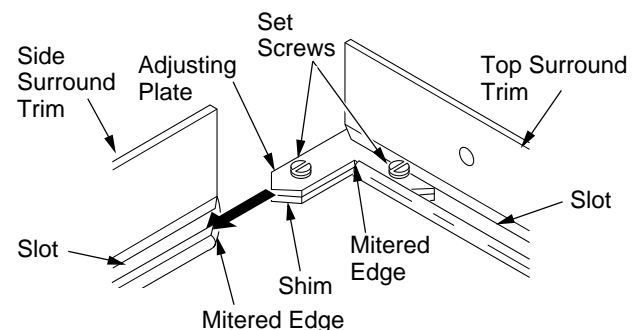

**Figure 20 - Rough Opening for Installing in Masonry Fireplace**
1. Use dimensions shown in Figure 20 for the masonry fireplace opening.